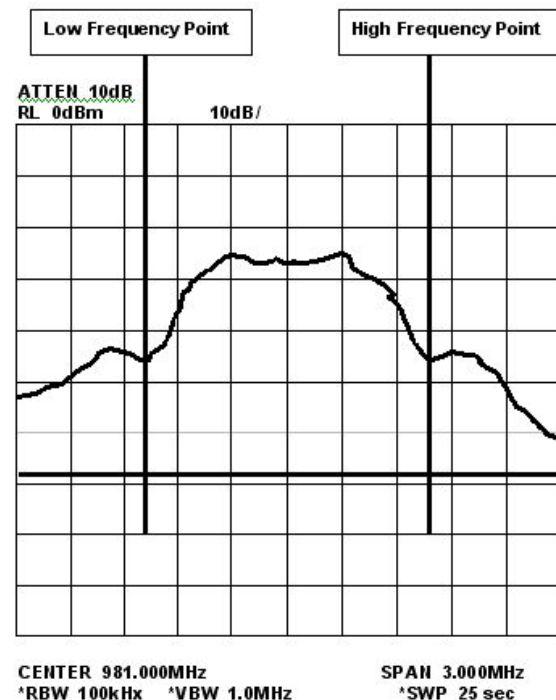

Figure 5-4 Spectrum Measurement
(8) Observe the Spectrum Analyzer until a full picture of the spectrum is displayed (approximately 4-6 sweeps in Peak Hold), similar to the presentation in Figure 5-4.
The test setup connection is shown in Figure 5-4.